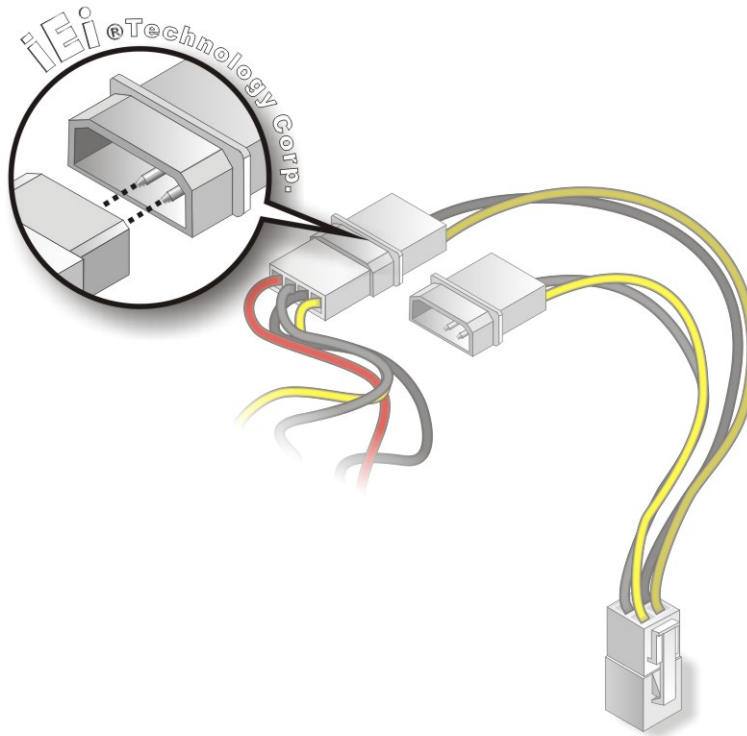

Figure 4-10: Connect Power Cable to Power Supply
Step 3: Connect Power Cable to Power Supply. Connect one of the 4-pin (1x4) Molex type power cable connectors to an AT/ATX power supply. See **Figure 4-10.**